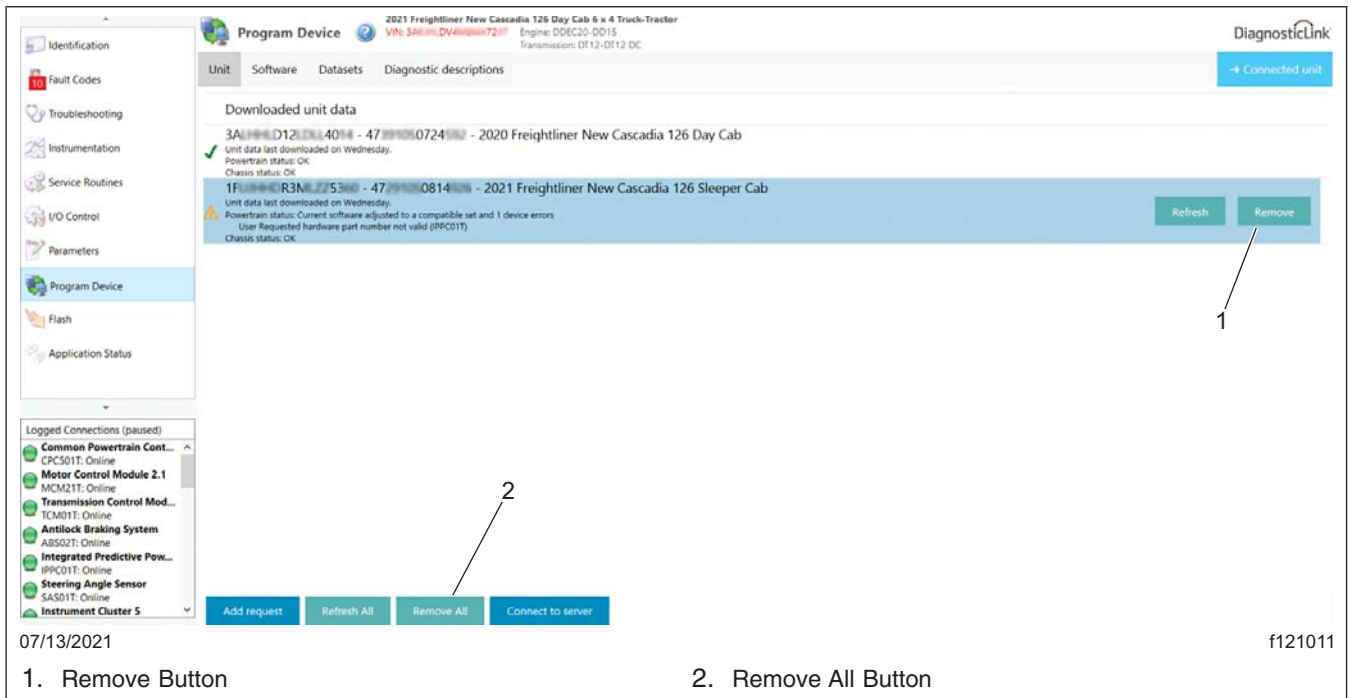

Fig. 4, Removing VINs
- Go to 'Program Device,' and make sure that the vehicle identification number (VIN) information that appears is correct. If not, remove each VIN by selecting the 'Remove' button located at the far right-hand side of that VIN. To remove all the VINs at once, select the 'Remove All' button at the bottom of the screen. See Fig. 4.